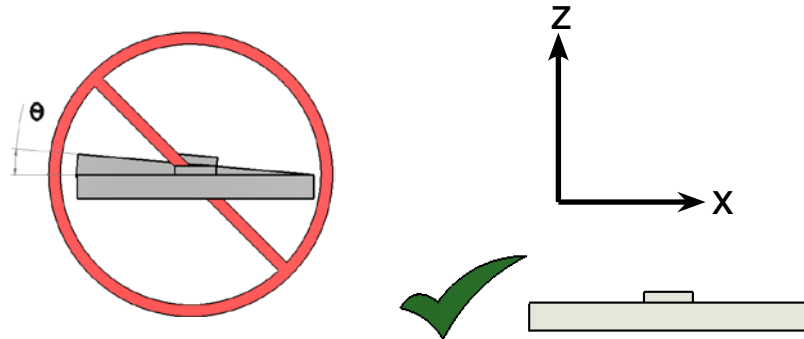

Figure 9: Angular misalignment on the left and proper alignment on the right.
- Are the actuators mounted level to each other? Angular misalignment in the will apply an unfavorable bending moment in the My-axis on the bearing system of both units. (See figure 9.)